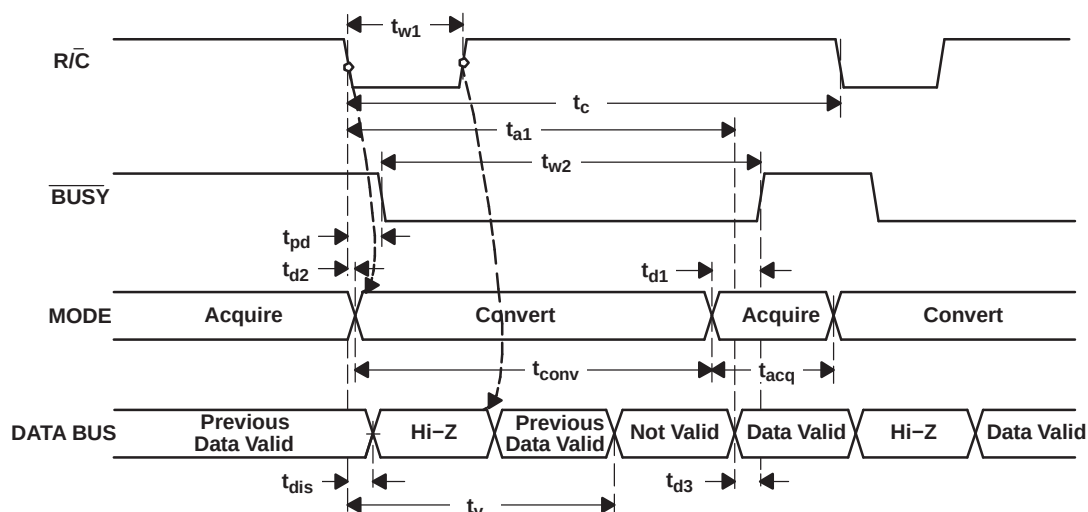
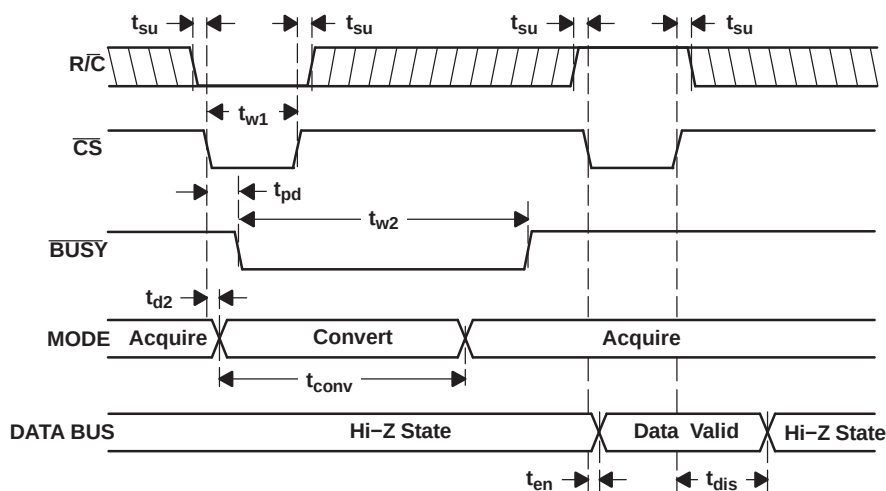
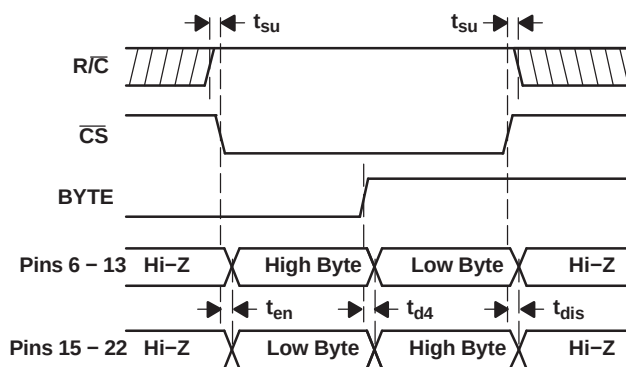

Figure 23. Conversion Timing with Outputs Enabled after Conversion ($\overline{CS}$ Tied Low)
Figure 24. Using $\overline{CS}$ to Control Conversion and Read Timing
Figure 25. Using $\overline{CS}$ and $\overline{BYTE}$ to Control Data Bus
The ADS8505 begins tracking the input signal at the end of the conversion. Allowing 4 μ s between convert commands assures accurate acquisition of a new signal. Refer to Table 1 for a summary of $\overline{CS}$, $R/\overline{C}$, and $\overline{BUSY}$ states and Figure 23 through Figure 25 for the timing diagrams.
(1) See Figure 23 and Figure 24 for constraints on data valid from conversion $n-1$.
After conversion n is completed and the output registers have been updated, $\overline{BUSY}$ (pin 26) goes high. Valid data from conversion n is available on D15-D0 (pins 6-13 and 15-22). $\overline{BUSY}$ going high can be used to latch the data. Refer to Table 3, Figure 23, Figure 24, and Figure 25 for timing specifications.
After conversion n has been initiated, valid data from conversion $n-1$ can be read and is valid up to t_2 (2.2 μ s typ) after the start of conversion n . Do not attempt to read data from t_2 (2.2 μ s typ) after the start of conversion n until $\overline{BUSY}$ (pin 26) goes high; this may result in reading invalid data. Refer to Table 3, Figure 23, Figure 24, and Figure 25 for timing specifications.
The number of control lines can be reduced by tying $\overline{CS}$ low while using the falling edge of $R/\overline{C}$ to initiate conversions and the rising edge of $R/\overline{C}$ to activate the output mode of the converter. See Figure 23.